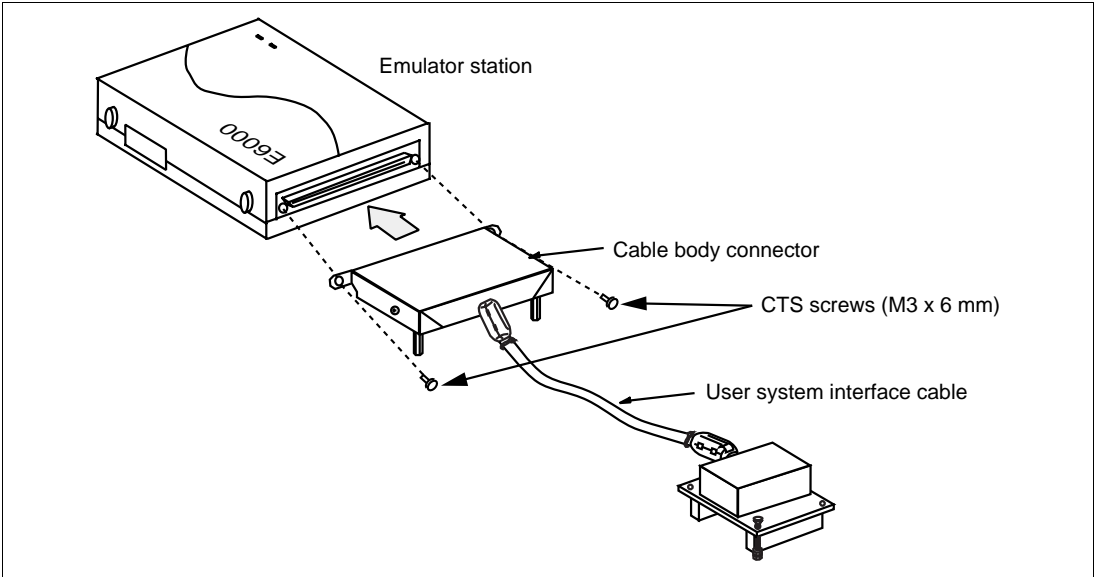

Figure 2 Connecting User System Interface Cable to Emulator Station
2. After making sure the direction of the cable body connector is correct, firmly insert the cable body connector into the emulator station socket, and fasten the emulator station with two CTS screws (M3 × 6 mm). (figure 2)